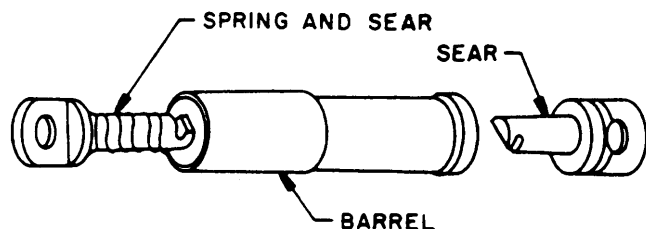
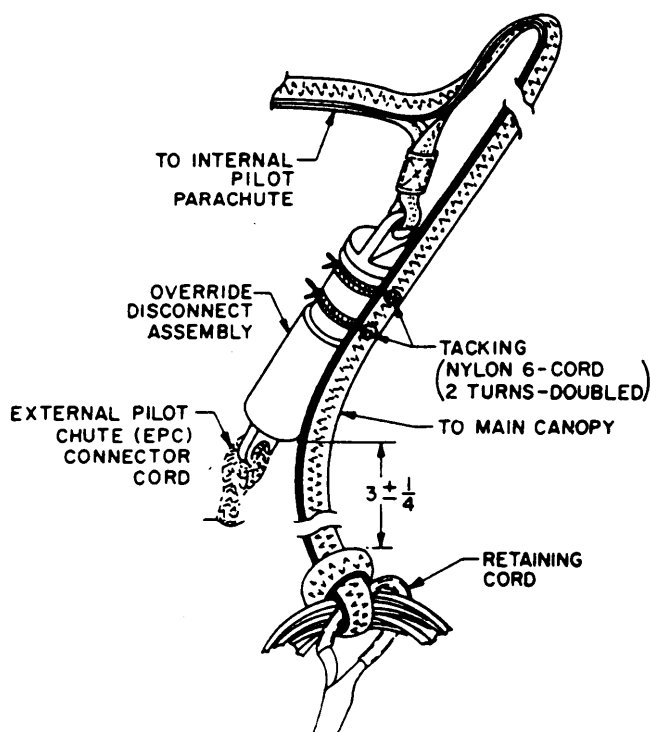

Figure 3-10.—Override disconnect.
Figure 3-11.—Tacking override disconnects.
in figure 3-10. It consists of two hooks or sears that are kept in engagement as long as they are inside the barrel.
1. Insert the spring and sear (fig. 3-10) into the wide end of the barrel assembly of the override disconnect. The spring and sear will be connected to the external pilot chute bridle, as shown in figure 3-11. With the aid of a temporary locking
2. Engage the sear attached to the internal pilot chute connector cord with the sear, which is protruding from the override disconnect, and release the tension by removing the temporary locking pin. This will cause the two sears to lock within the barrel assembly of the override disconnect. As you can see in figure 3-11, the external and internal pilot chutes are now locked together.